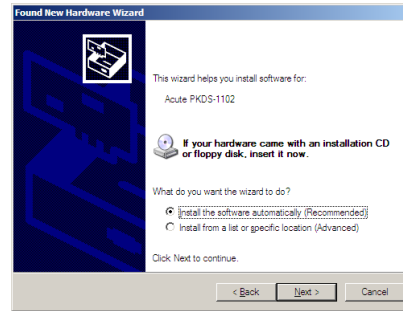

Figure 2
- (3) Choose “Install the software automatically (Recommended)” to find the proper driver automatically (Figure 2). Click “Next”.
- (4) Click “Next” when a driver is found.